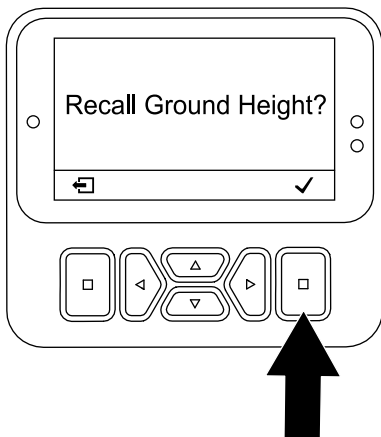

Figure 106
6. On the Recall Ground Height screen (Figure 106), press the select button.